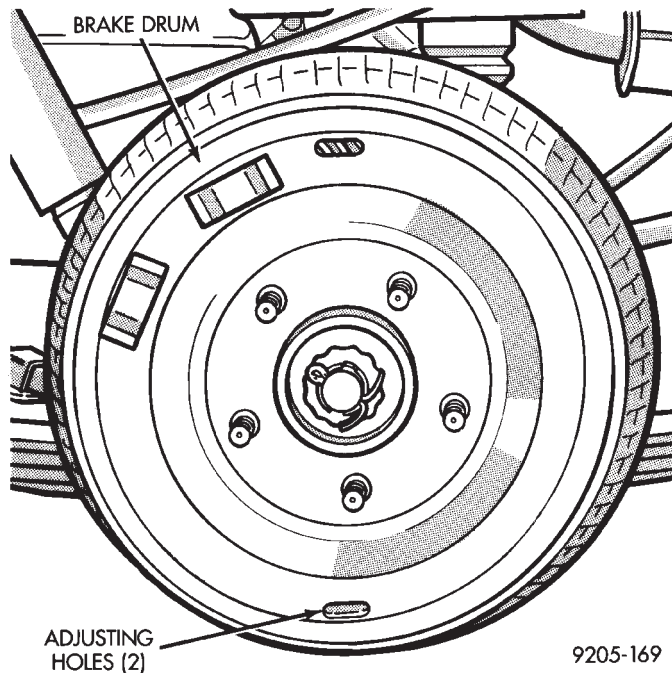

Fig. 3 Rear Brake Drum Position For Parking Brake Adjustment (AWD)
(1) Raise the vehicle so all wheels are free to turn. See Hoisting Recommendations in the Lubrication And Maintenance Section, at the front of this service manual.
(2) Be sure parking brake lever is fully released. Then back off parking brake cable adjustment so there is slack in the cable.
(3) Remove the rear tire and wheel assembly from the vehicle to expose the front of the rear brake drum.
(4) Rotate the rear brake drum so the adjusting holes in the face of the brake drum are positioned at 12:00 and 6:00 (Fig. 3).